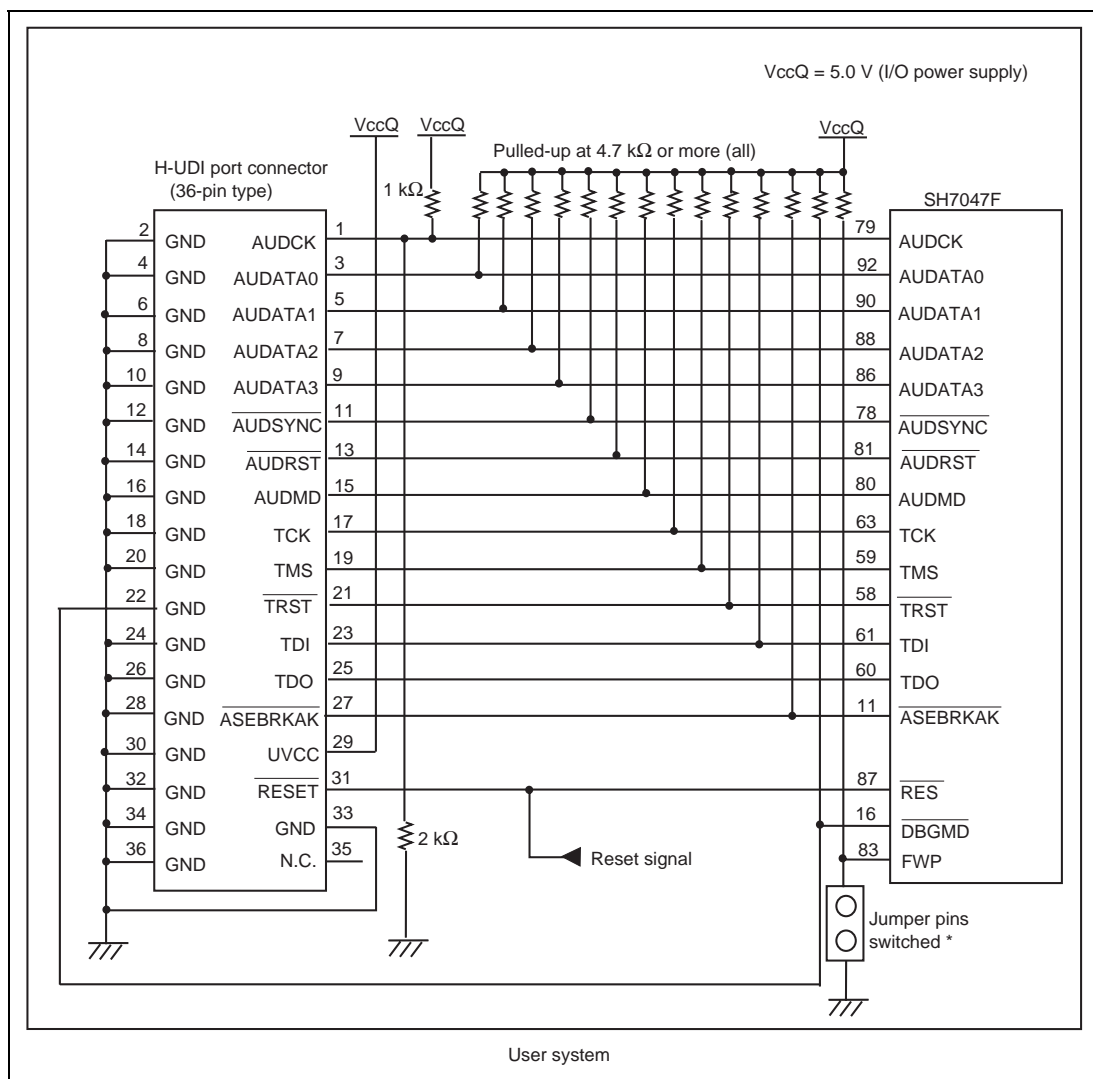
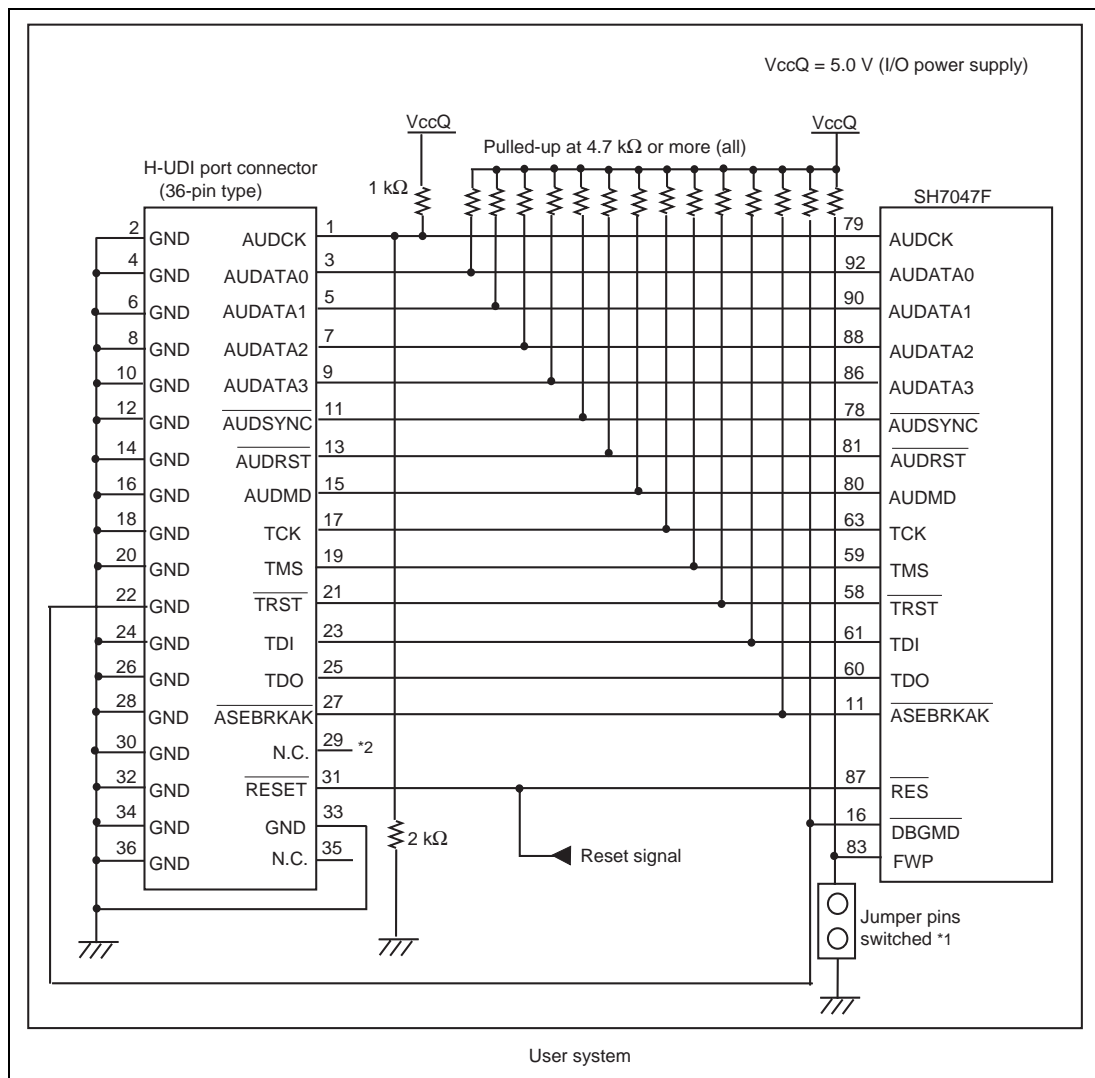

Figure 1.3 Recommended Circuit for Connection between the H-UDI Port Connector and MCU when the Emulator is in Use (36-Pin Type UVCC Connected)
Figure 1.4 Circuit for Connection between the H-UDI Port Connector and MCU when the Emulator is in Use (36-Pin Type UVCC Not Connected*)
Figure 1.3 shows a recommended circuit for connection between the H-UDI and AUD port connectors (36 pins) and the MCU when the emulator is in use. Figure 1.4 shows a circuit for connection when UVCC is not connected.
(1) When the emulator is used: /DBGMD = 0 (ASE mode)
(2) When the emulator is not used: /DBGMD = 1 (normal mode)
Figures 1.3 and 1.4 show examples of circuits that allow the /DBGMD pin to be GND (0) whenever the emulator is connected by using the user system interface cable.
7. When the power supply of the user system is turned off, supplying VccQ of the user system to the UVCC pin reduces the leakage current from the emulator to the user system. Buffers that can be activated by the internal power supply or user power supply (changed by the switch) are installed in the interface circuit of the emulator. If the user power is selected for supply to the UVCC pin, the buffers will not be activated unless supplied with user power. Thus no current flows from the user interface when the power supply of the user system is turned off. The I/O voltage level of the user system interface can be the same as that of the VccQ. To operate the emulator with low voltage (lower than 5.0 V), the VccQ must be supplied to the UVCC pin. Make the emulator's switch settings so that the VccQ will be supplied (SW2 = 1 and SW3 = 1) (as shown in figure 1.3).
8. The resistance values shown in figures 1.3 and 1.4 are recommended.
When the circuit is connected as shown in figure 1.3, the switches of the emulator are set as SW2 = 1 and SW3 = 1. For details, refer to section 3.8, Setting the DIP Switches, in the Debugger Part of the SuperH™ Family E10A-USB Emulator User's Manual.
When the circuit is connected as shown in figure 1.4, the switches of the emulator are set as SW2 = 0 and SW3 = 1. For details, refer to section 3.8, Setting the DIP Switches, in the Debugger Part of the SuperH™ Family E10A-USB Emulator User's Manual.